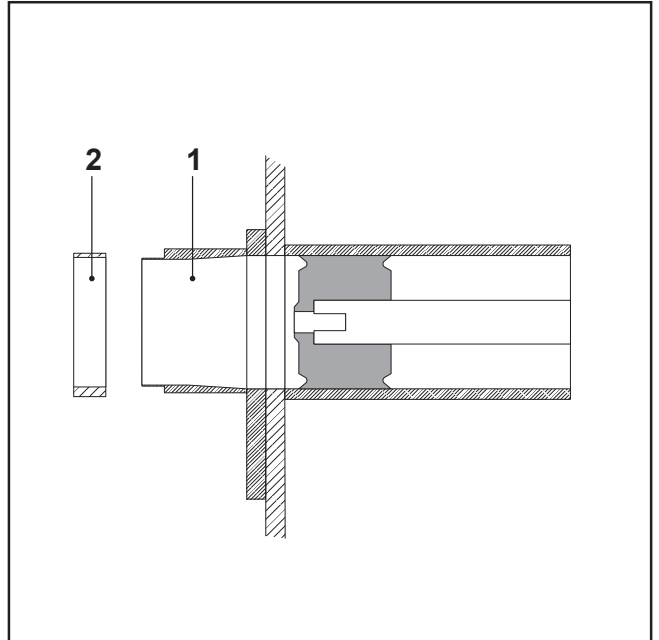

FIG.64
- Slip on the guide ring (FIG. 64-REF. 1) applying the tapered part on the wear plate.
- Holding the guide ring against the liner, slip the spacer (FIG. 64-REF. 2) on to the guide ring.